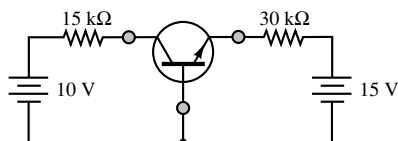

Figure P10.5
- 10.5** Given the circuit of Figure P10.5, determine the emitter current and the collector-base voltage. Assume the BJT has $V_{\gamma} = 0.6$ V.